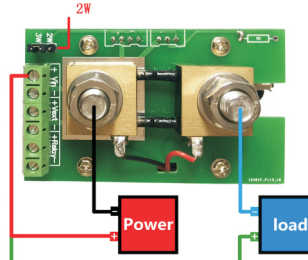

Figure1 Two-wire wiring diagram
- Check the wiring is in accordance with the wiring diagram shown in Figure 1. The positive terminal of VIN + and the load are connected to the power supply positive terminal; the negative terminal of the power supply is connected to the left large screw on the measuring board (small current can also be connected to VIN-), and the negative terminal of the load is connected to the right large screw, at the same time, put jumper at "2W" position. Note that the Vext. and Relay don't need to have wires connected. Please check that the negative terminal wiring is properly in contact with the brass screw, as this will reduce any error.